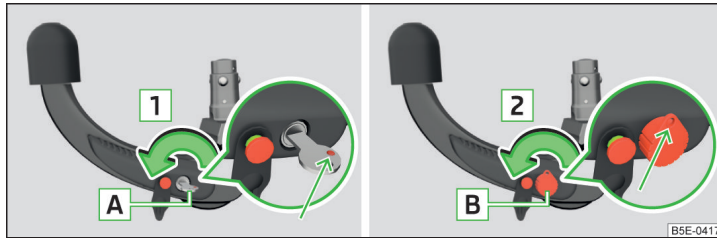

Fig. 297 1. Step: Key version 1 / key version 2
- › Turn key **A** in the direction of arrow **1** so that the red marking is pointing upwards » Fig. 297.
- › Turn the key in the direction of arrow **B 2** so that the conclusions release shows up » Fig. 297.